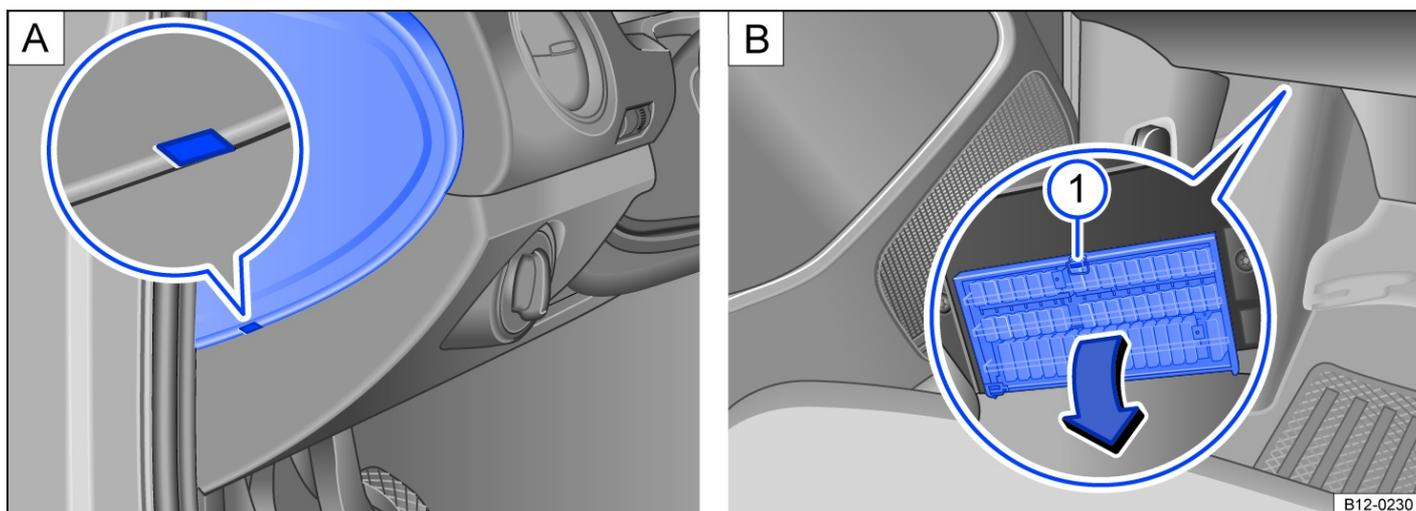

Fig. 1 On the driver's side: Open the fuse box inside or below the dash panel.
- Insert a flat object, e.g. screwdriver from the vehicle tool kit, in the recess and lift off the cover carefully → Fig. 1 **A** (Magnifying glass).